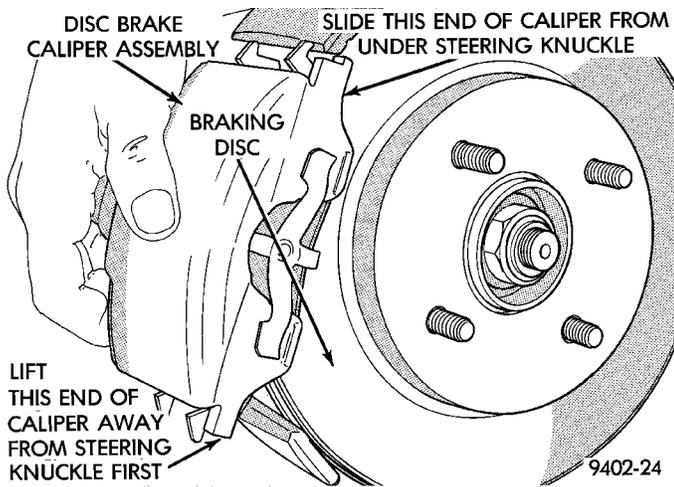

Fig. 53 Brake Caliper Removal
- (4) Remove the disc brake caliper from the steering knuckle. Caliper is removed by first lifting bottom of caliper away from steering knuckle, and then removing top of caliper out from under steering knuckle (Fig. 53).
(5) Install the disc brake caliper to steering knuckle attaching bolts (Fig. 53). Tighten the attaching bolts to a torque of 31 N·m (23 ft. lbs.).
(6) Install front wheel and tire. Install front wheel lug nuts and torque to 135 N·m